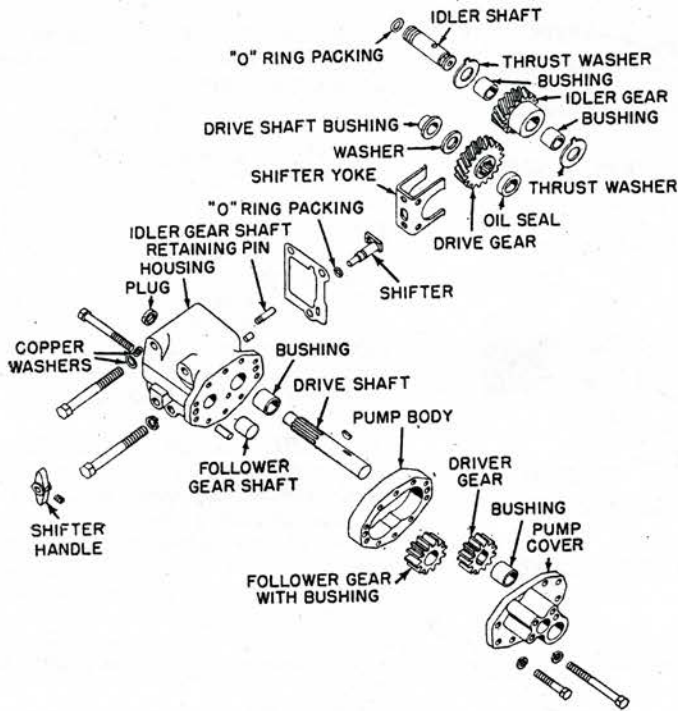

Fig. 59A Exploded view of Powr-Trol pump. Models 50, 60
The Powr-Trol pump, Fig. 59A, is a positive-displacement, gear-type pump, mounted on the governor case and driven by an idler gear which meshes with the cam gear.
**REMOVAL**—Drain the oil from the Powr-Trol system and disconnect oil lines at pump housing. Remove the three mounting cap screws and lift the pump from the governor case. Be careful not to lose the idler gear shaft retaining pin, Fig. 59A, which may fall out when the pump is removed.